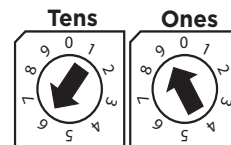

Figure 2: Rotary Switches Set for Zone Address 569
**Example:** On an XR550 panel, to set the detector to zone number 569 on LX-Bus 500, set the left rotary switch (TENS) to **6** and the right rotary switch (ONES) to **9**. See Figure 2.